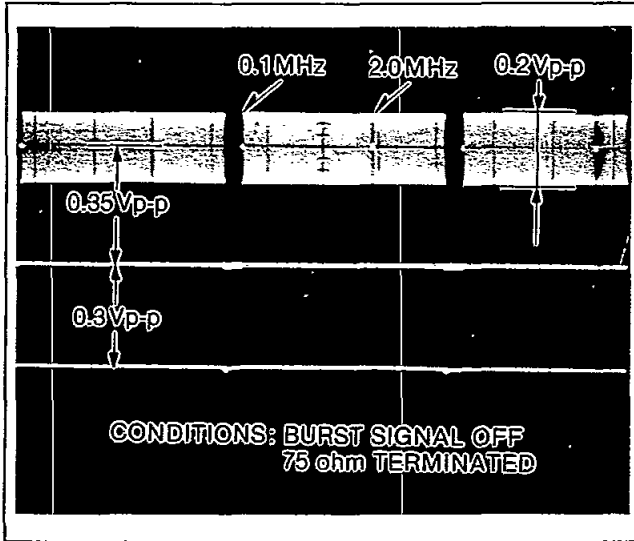

Fig. E7
- (1) Set the Video Sweep Signal as shown in Fig.E7.